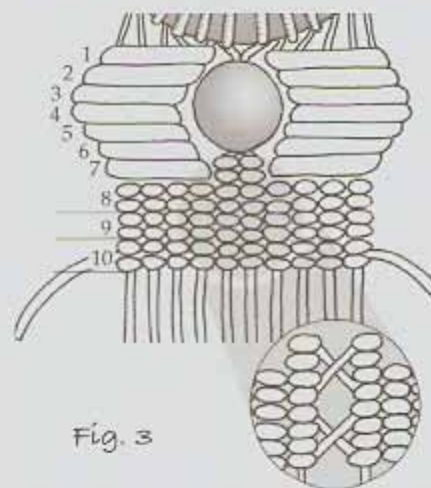

Fig. 3
9. Row 8 - Cross Cds # 6 & 7 over each other. Continuing in the same direction, they will serve as the knotting cords for the following row. Working out from the center to the sides, make a row of **VDHHs** on each side. Continue using the same knotting cords for the next 2 rows (see Figure 3).